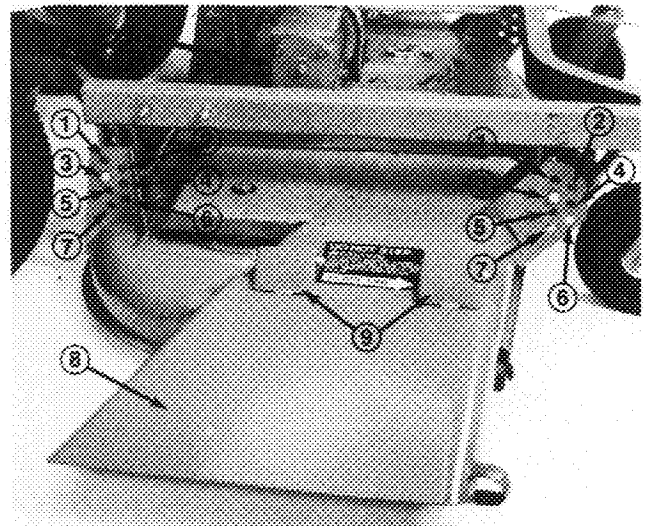

Figure 7
2. Mount cutting unit to carrier frame with four (4) clevis pins and hair pin cotters (Fig. 7).
The height-of-cut is adjustable from 1" to 4" (25 to 102 mm) in 1/2" (13 mm) increments by relocating clevis pins in different holed locations in brackets at each corner of cutting unit (Fig. 7). Stop engine before making height-of-cut adjustment.